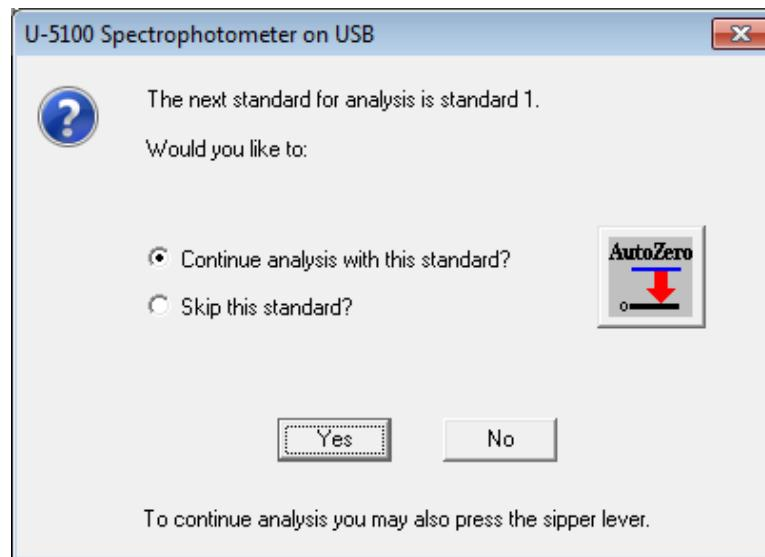

Fig. 7-2
- (2) Click the  (Start Series) button to start measurement. At the start of measurement, a dialog box as shown in Fig. 7-2 will appear.
After completion of the first standard measurement, proceed to the next standard measurement. When the dialog box shown in Fig. 7-2 appears, set the next standard sample and press the sipping lever.